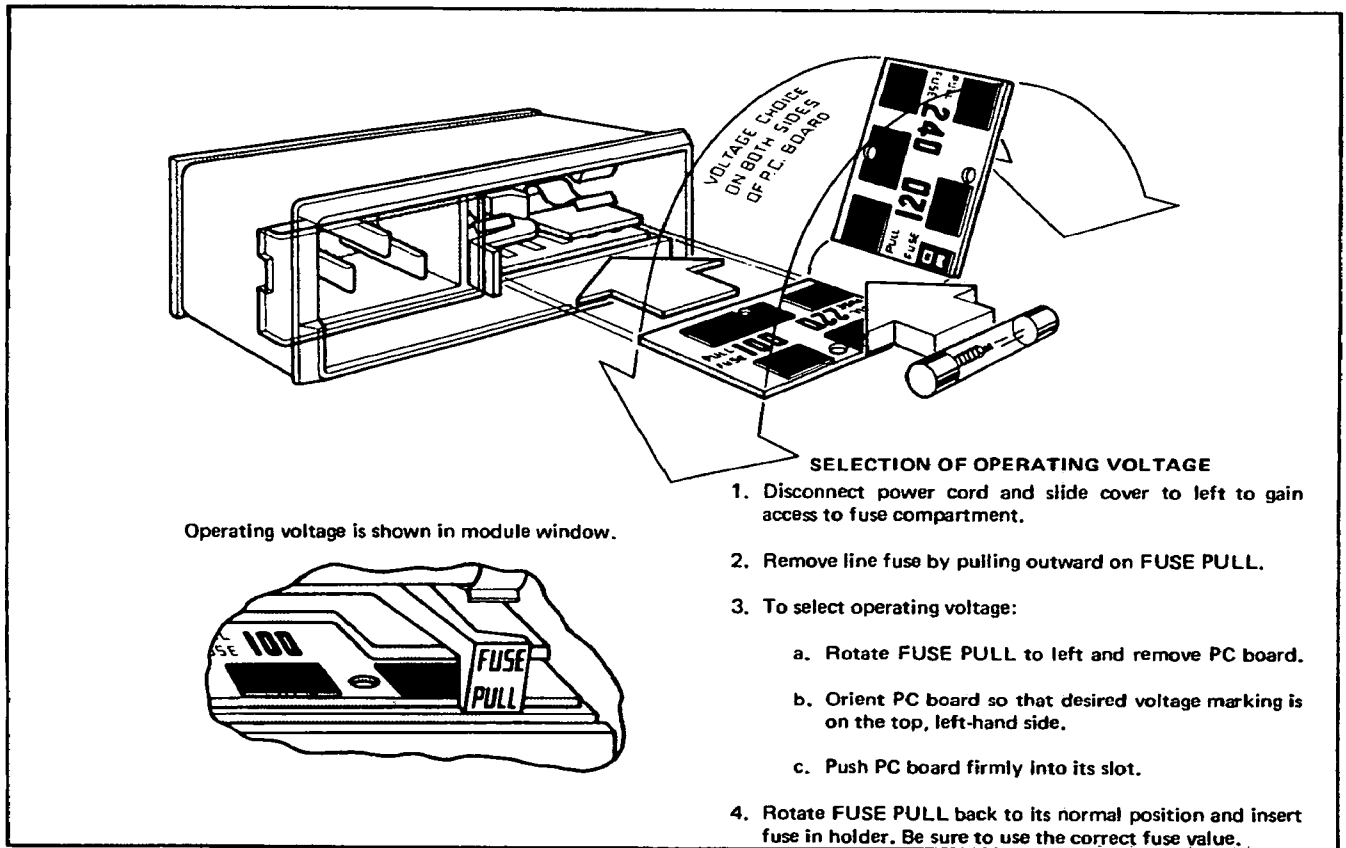

Figure 3-33. Voltage Selection.
- b. Refer to Figure 3-33 and set the 3580A for the line voltage to be used (100 V, 120 V, 220 or 240 V). Line voltage must be within + 5% to -10% of voltage setting.